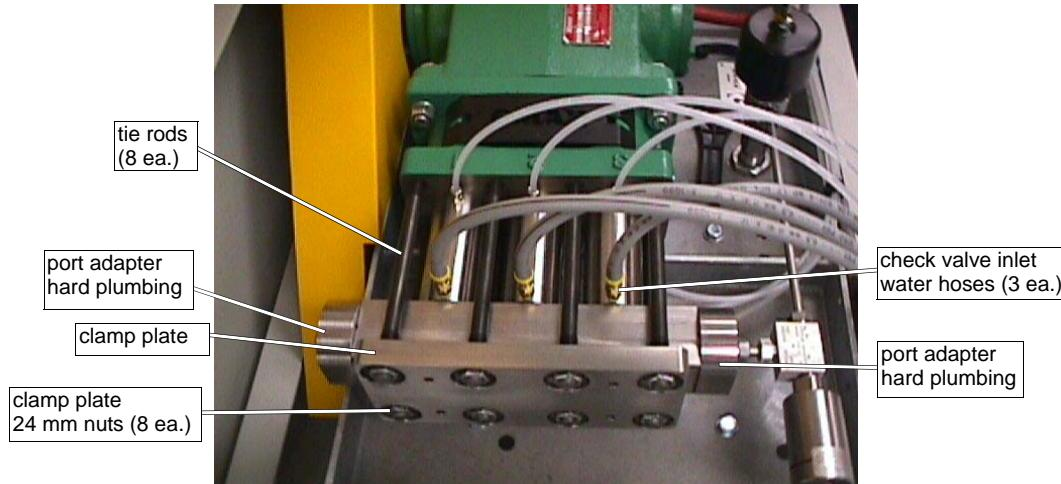
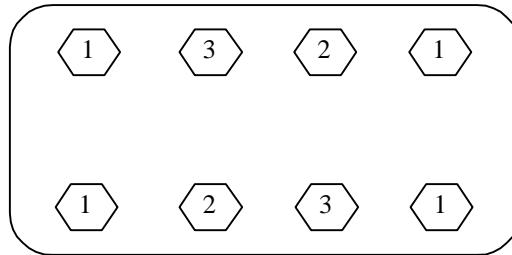

Figure 5-2: High-pressure Wet End Assembly
Figure 5-3: Nut Loosening Sequence for Removing Clamp Plate from High Pressure Assembly.
The high-pressure wet end assembly consists of those pump parts which are bolted to the crankcase and are directly involved in providing high-pressure water. Refer to Figure 5-2. When disassembling this assembly, keep all parts together in related sets, noting the original position of each set.
2. Disconnect the Hard Plumbing from the Port Adapter, using the 13/16" and a 1" open end wrench. See Figure 5-2:
4. Using the 24 mm socket (or 15/16" socket) and 1/2" breaker bar, remove the eight 24 mm Nuts from the Clamp Plate (Figure 5-2), being careful to remove the load on the Tie Rods evenly. Break loose the Nuts at the ends of the Clamp Plate first, then use a crisscross pattern when breaking the remaining four Nuts loose (Figure 5-3). Using the same pattern, back each Nut off 1/2 turn until the load is removed from the Tie Rods.